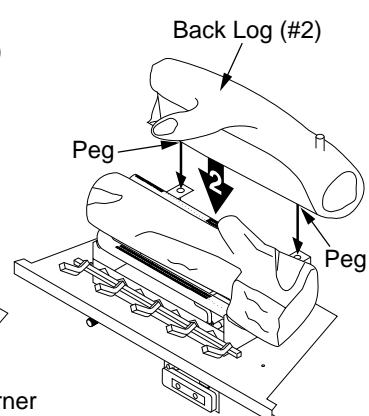

Figure 46 - Installing Back Log (#2)
2. Locate pegs on the bottom of back log (#2). Slide these pegs into the holes in the grate base behind the burner (see Figure 46).